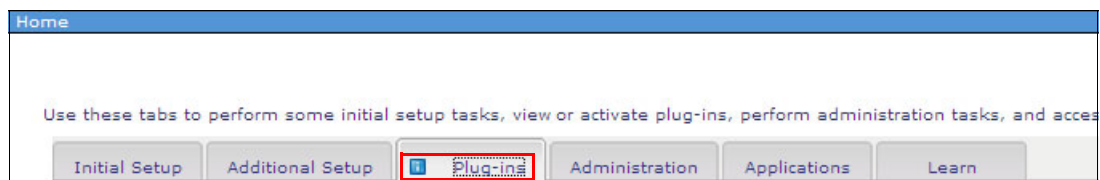

Figure 10-29 Flex System Manager main window
1. Click the **Plug-ins** tab on the Flex System Manager Home page, as shown in Figure 10-29.